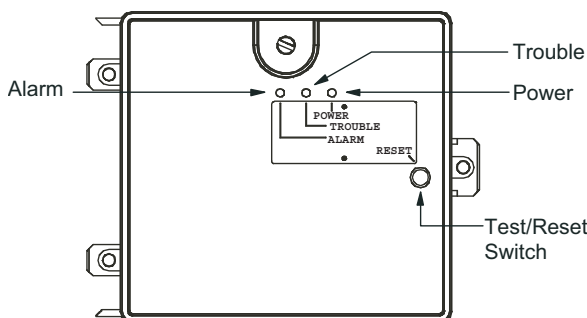

Fig. 57 — Controller Assembly
- The contacts on the controller's supervisory relay switch positions. (See Fig. 57.)